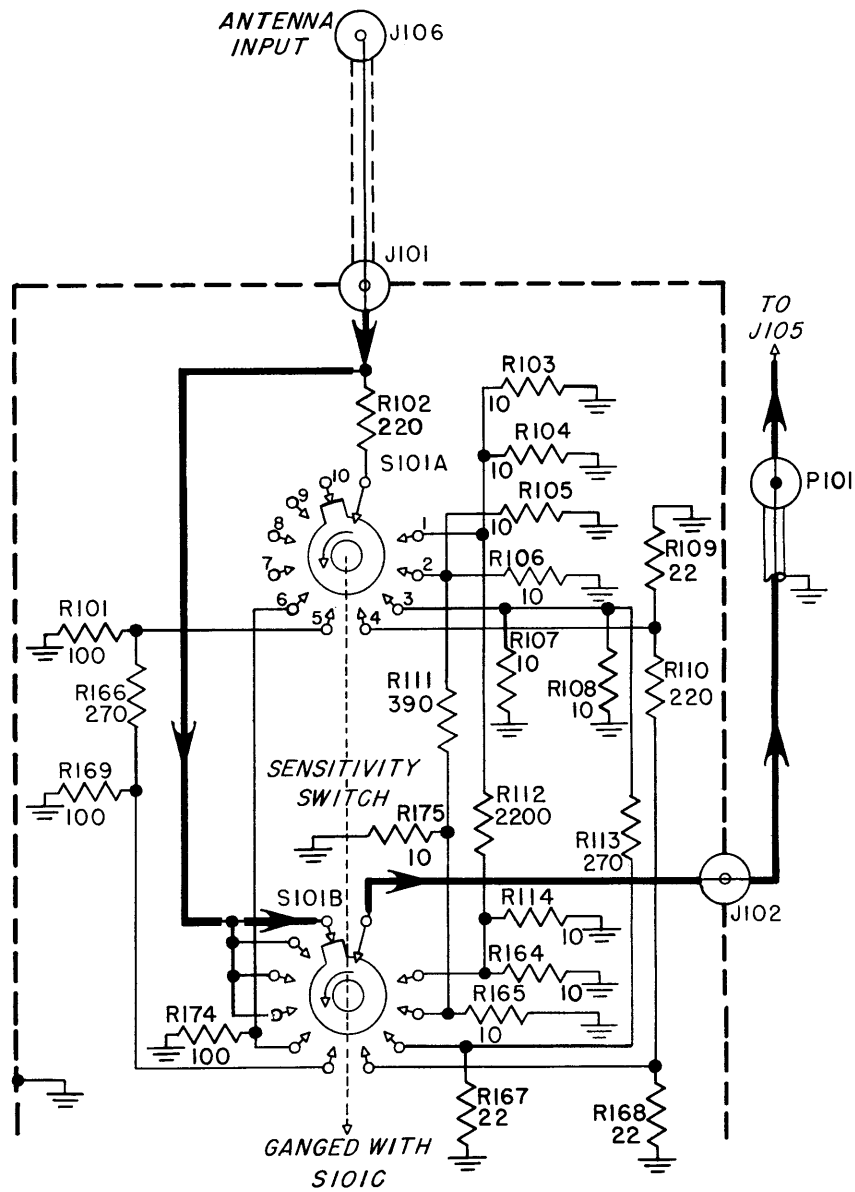

Figure 2-2. Input Attenuator, Simplified Schematic Diagram
a. INPUT ATTENUATOR (See Figure 2-2).- The Monitor is used for checking modulated or unmodulated R.F. signals in the frequency range of 0.3 to 400 megacycles. The R.F. voltage from the antenna (or the test probe when used) comes into the input attenuator via antenna connector J106. This attenuator is made up of two switch sections S101A and S101B together with their associated resistors. It is operated by the same shaft as the chopper attenuator. In positions 1 through 6 the input attenuator functions to prevent overloading of the R.F. amplifier. In positions 7 through 10 it